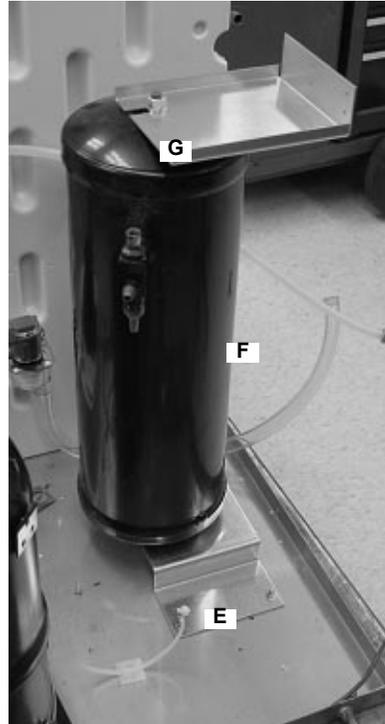

FIGURE 28
30. Install the new receiver bottom bracket (E) on the base chassis with the long flange on the right side. Place the receiver (F) on the bottom bracket oriented as shown. Tighten nut underneath bottom bracket. Note the location of service port valve. Install the new top bracket (G) on the receiver with all flanges up (FIGURE 28).